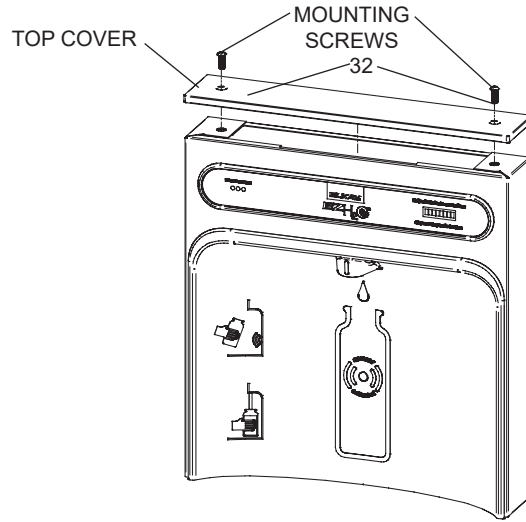

Figure 2
1. Remove two (2) mounting screws holding top cover to bottle filler with a 5/32" (4mm) Hex Key (See Figure 2). Remove top cover. Note: Do not discard mounting screws; they will be needed to re-install top cover.
10. Once bottle filler is installed on wall plate tabs, waterline, wires, and power cord are installed properly, push top of bottle filler toward wall and line up two (2) holes on top cover.
11. Re-install top cover on bottle filler (See Figure 2) with two (2) mounting screws from step 1 above. **Caution:** Do not over tighten screws.